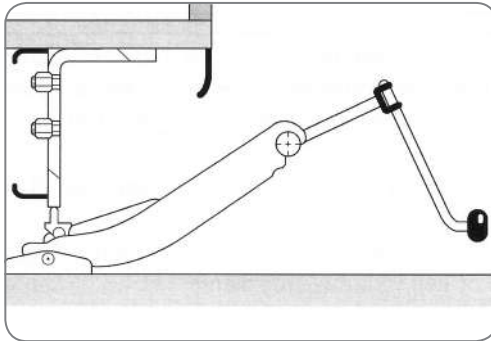

Figure 7.01
- Place the jack in the jack support holder of the wheel being changed (figure 7.01). If the Shelter is not equipped with a jack support holder, the jack must be placed under the chassis bar near the wheel being changed.